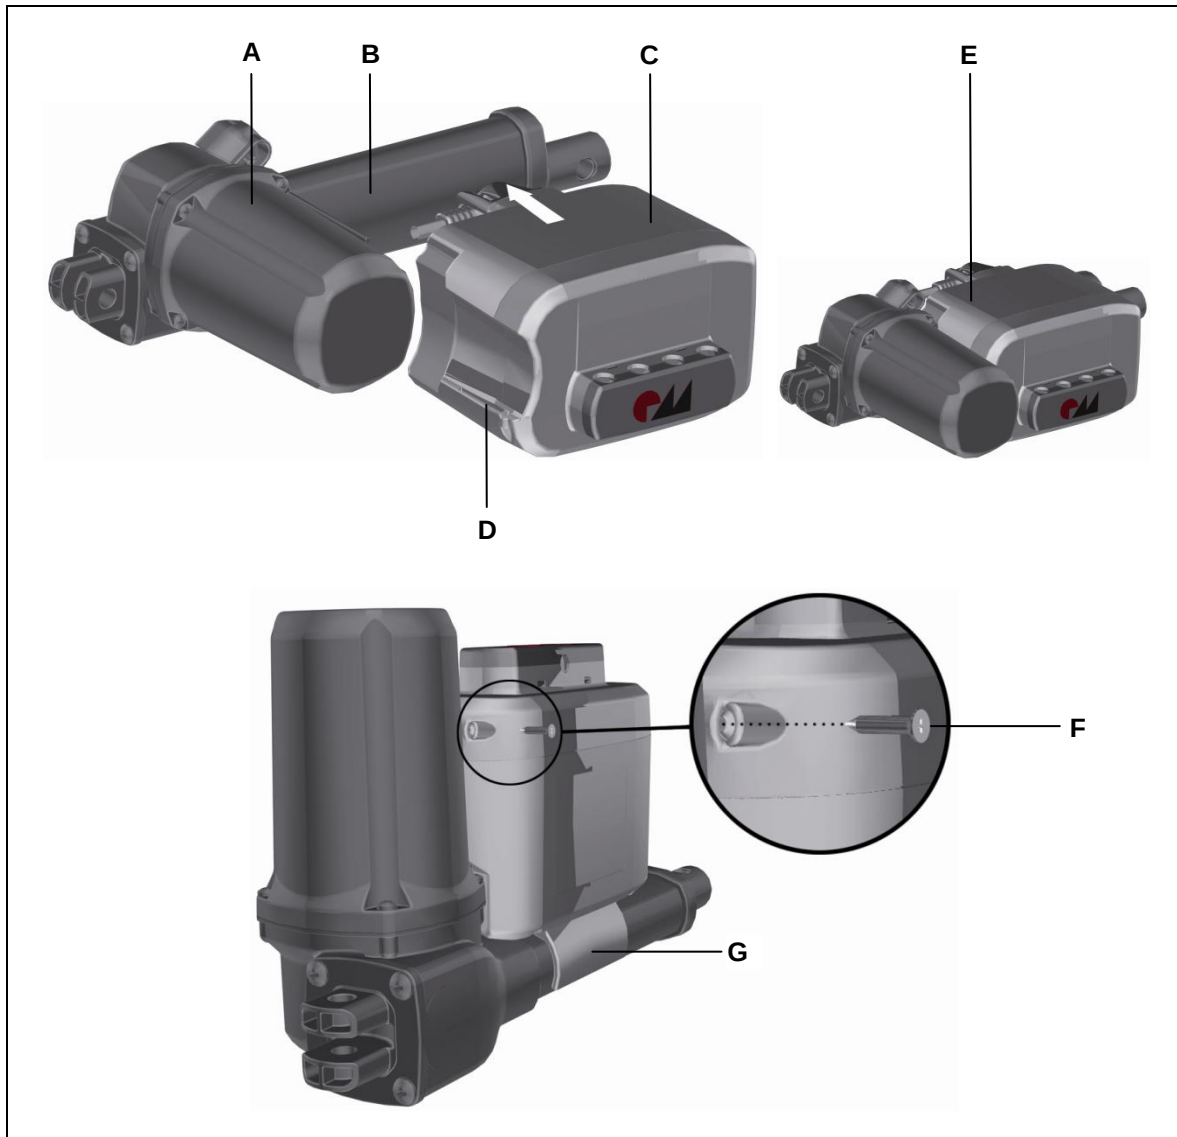

Figure 8 Mounting the MC10 control unit
- 1 Push the MEGAMAT MLZ drive along the guidance groove (D) until the guidance profile (B) snaps onto the support (G).
- 2 A screw can also be used to secure the MEGAMAT MLZ drive to the MC10 control unit. Tighten the screw (F), as shown in Figure 8. Use a fastening screw with the dimensions 3.5 mm x 13 mm (ISO 7049-ST).